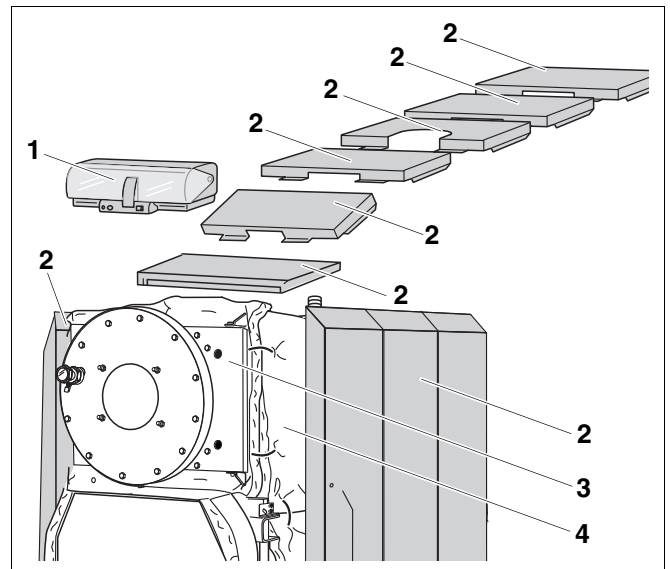

Fig. 1 Logano plus SB735 Gas condensing boiler
The main components of the Logano plus SB735 Gas gas-fired condensing boiler (Fig. 1) are:
- Control unit (accessory – Fig. 1, [1])